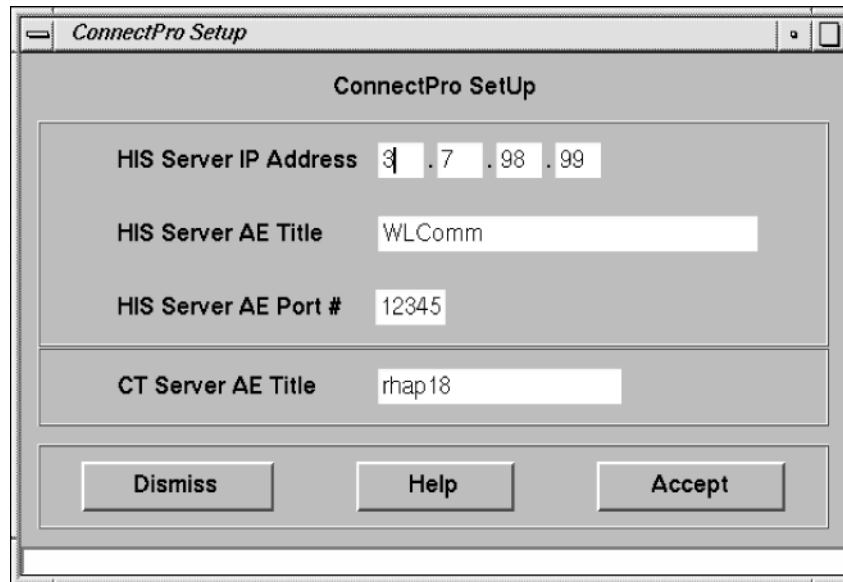

Figure 4-8 ConnectPro Setup Screen
- the console displays the ConnectPro Setup window as shown in Figure 4-8.